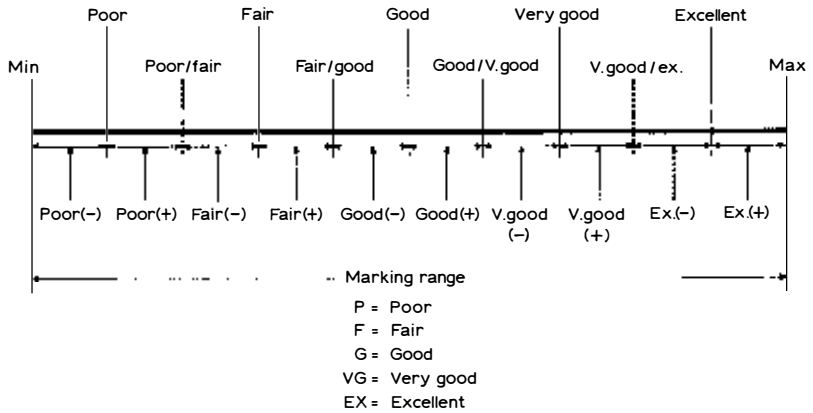

Fig. 4.7: Standard marking scale of author's lab, used for compiling the results in Table 4.1.
See Fig. 4.7 for marking scale.
The results have all been statistically analysed, but instead of presenting actual figures, we have given here the results in terms of poor (P), fair (F), good (G), very good (VG), and excellent (EX) with  $\pm$  deviations according to our standard marking scale shown in Fig. 4.7.